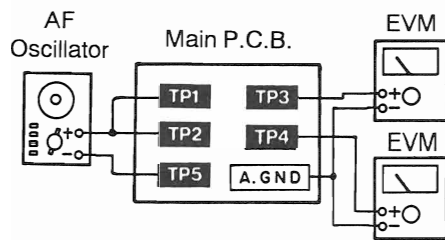

Fig. 4
1. Connect the measuring instrument as shown in Fig. 4.
- Connect an AF oscillator between **TP1** (LINE IN, left channel) and **TP5**, and between **TP2** (LINE IN, right channel) and **TP5**. (Refer to Fig. 1 and Fig. 4.)
- Connect an EVM (AC range) between **TP3** (LINE OUT, left channel) and **A. GND**, and between **TP4** (LINE OUT, right channel) and **A. GND**. (Refer to Fig. 1 and Fig. 4.)